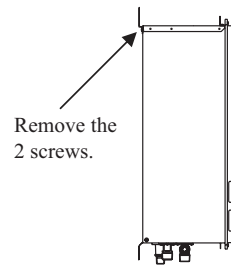

Figure 3: Rear mounting bracket.
- Remove the rear mounting bracket (see Figure 3) by removing the 2 screws securing it to the case.